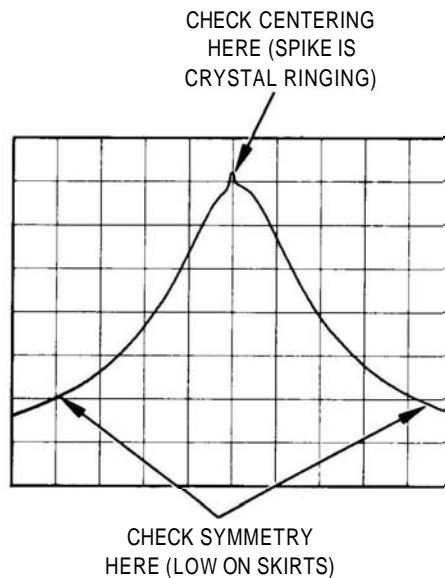

FIGURE 5-7. ADJUSTING CRYSTAL SYMMETRY AND CRYSTAL CENTERING
13. Adjust front-panel TUNING control to center bandpass spike (Figure 5-7) on the CRT display.
14. Adjust A13C54 CTR for minimum signal amplitude. Then adjust A13C38 SYM and A13C54 CTR for a centered and symmetrical bandpass as shown in Figure 5-7.